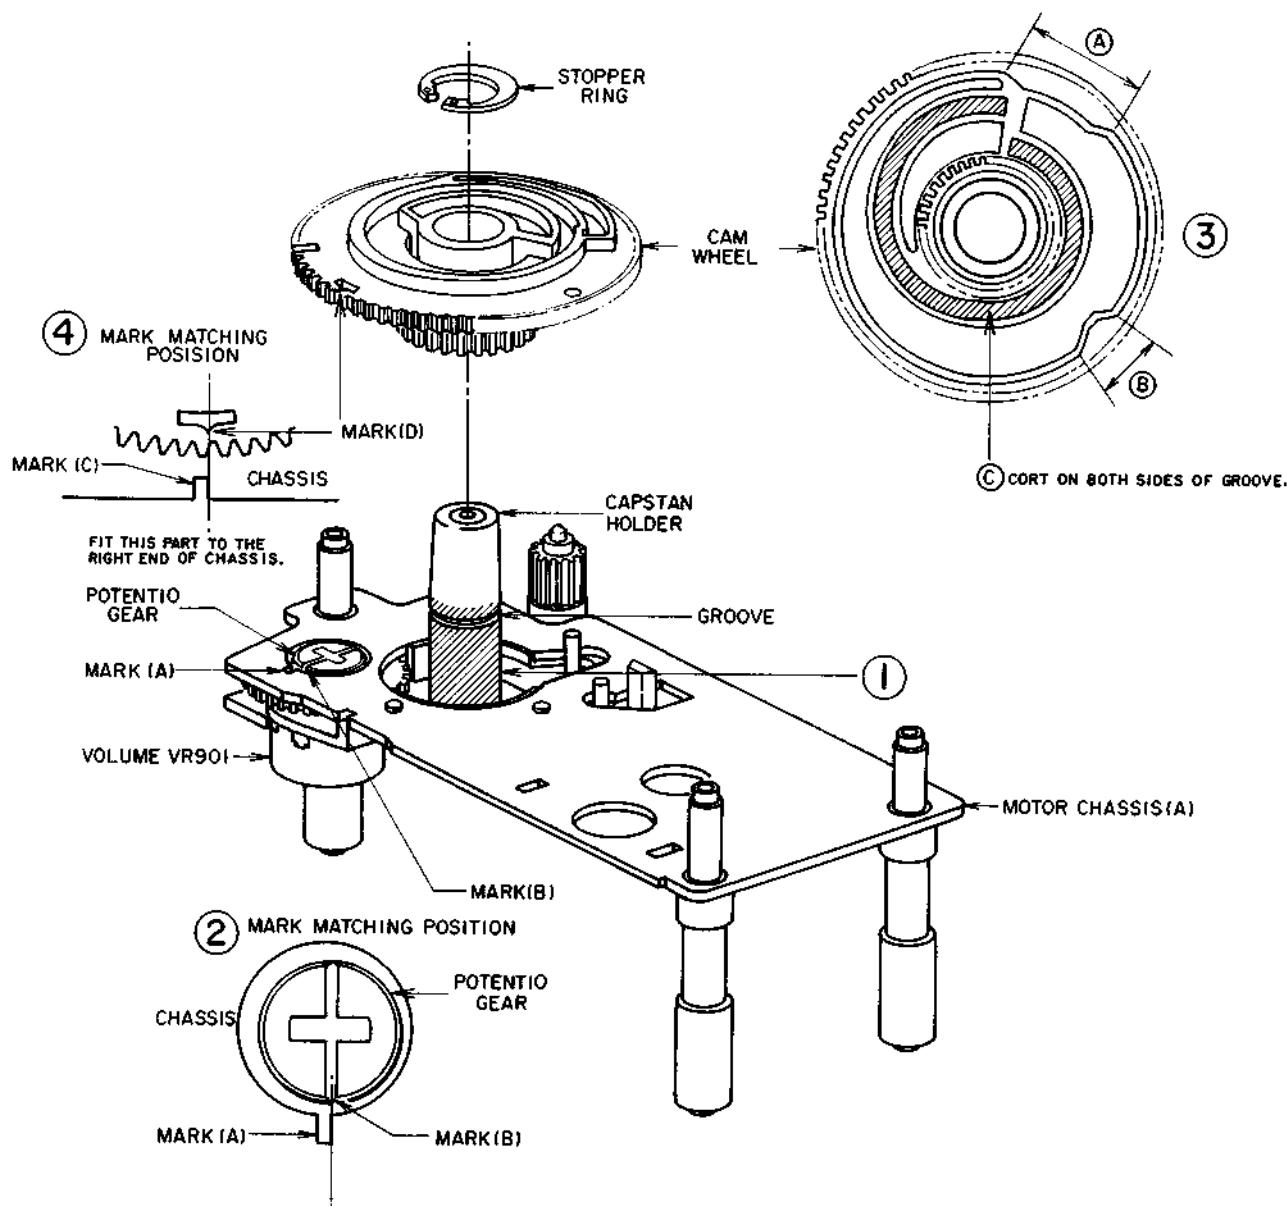

Fig. 7
Apply Molybdenum coat on the area of 360° from the bottom to the upside 2 mm of groove as shown in the figure. (Fig. 7-①)
Fit the right end of Mark (A) to the center of Mark (B) as shown in the figure. (Fig. 7-②)
- 3) Apply Molybdenum coat on Ⓐ, Ⓑ and Ⓒ shown in Fig. 7. ③.
meshed properly). When the cam wheel is set properly, fit the center of Mark (D) to the right end of Mark (C). (Fig. 7-④)